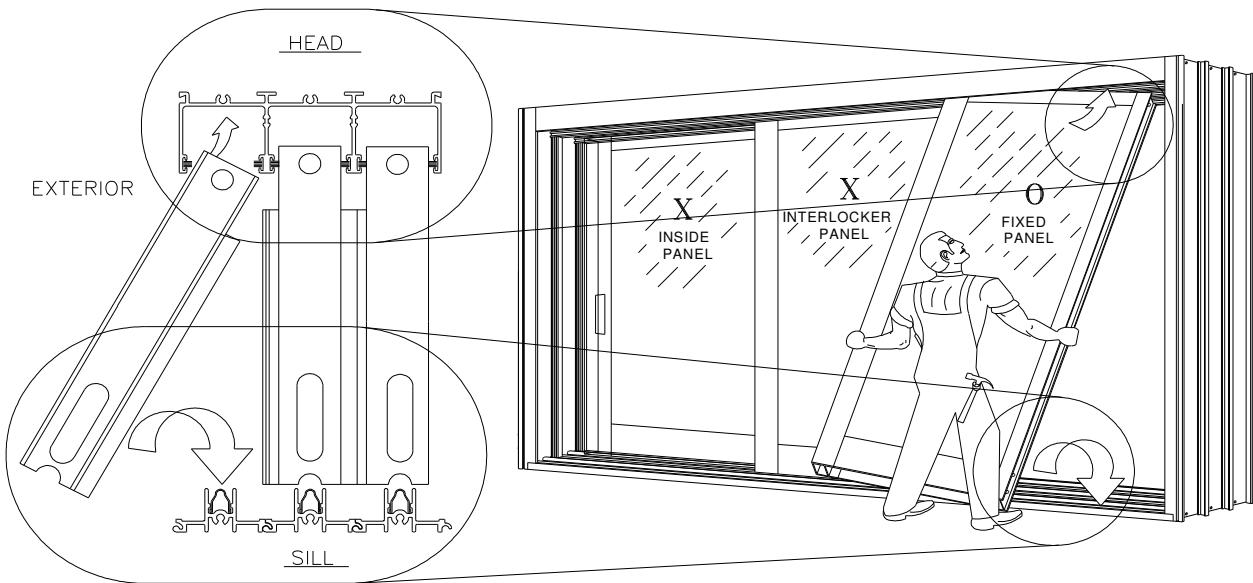

Figure 17:
2. Insert panel (panel located on the track closest to the interior) into the upper head channel (Figure 17). Push up and swing the bottom inward until panel is vertical, then lower panel down onto the track. On PX or XP configurations, if the pocket construction has been completed, it may be necessary to remove the lead stile from the panel before installation into the frame can be accomplished.